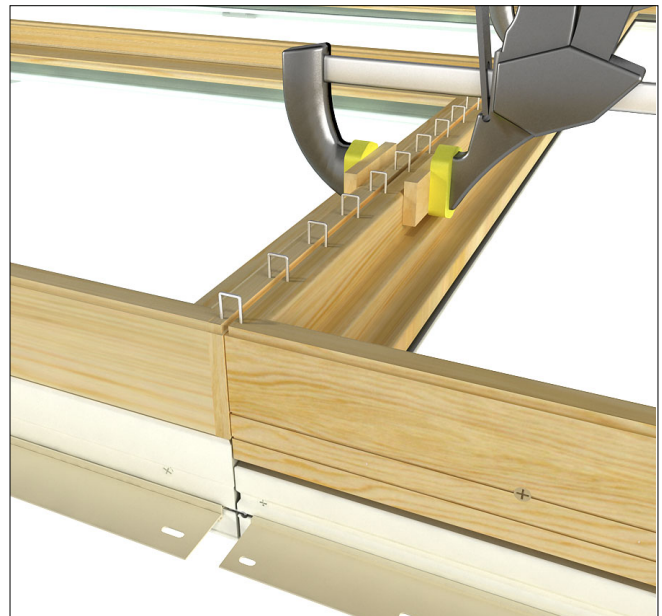

Figure 9
4. Apply third clamp if necessary and fasten transom sill and door head jamb with 16 gauge staples spaced every 5" (127). See figure 9.